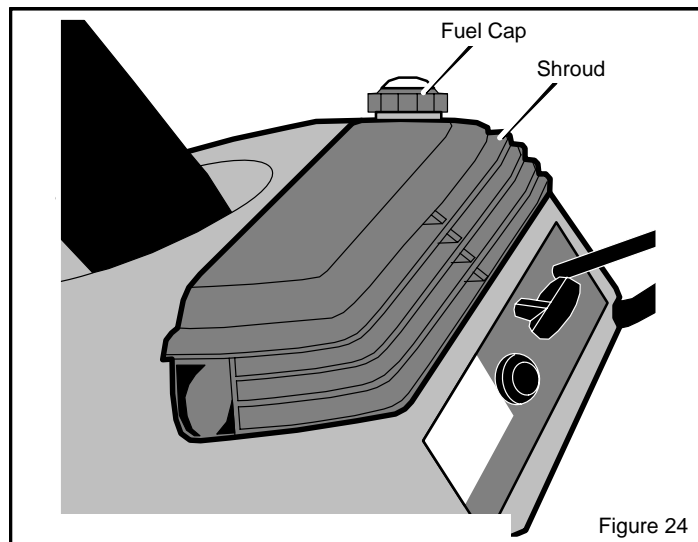

Figure 24
1. Remove the **fuel cap** (see Figure 24).
9. Remove the **fuel cap** and install the **shroud** (see Figure 24).